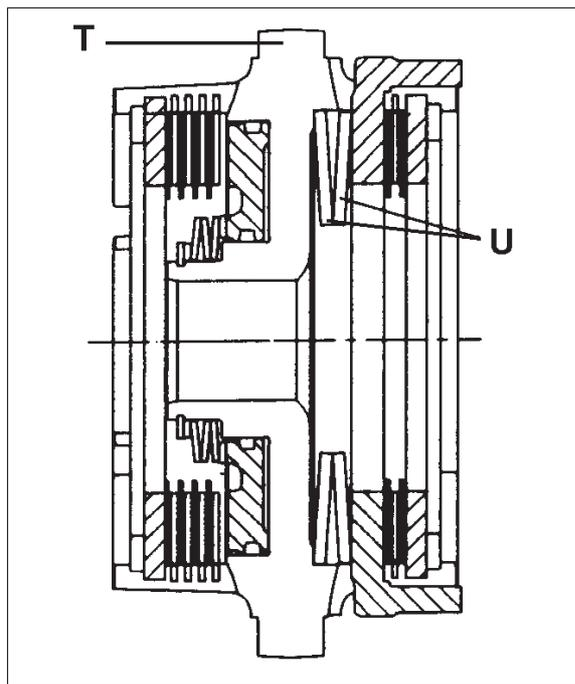

Fig. 10 - Preassembly of MEDIUM-LOW clutches.
- Working at the bench, preassemble the friction discs of the MEDIUM - LOW housing **T** p/n 007.6744.3 (Fig. 10). Align the discs initially using the housing itself as a reference, then compress the belleville discs **U** p/n 2.1499.127.0.